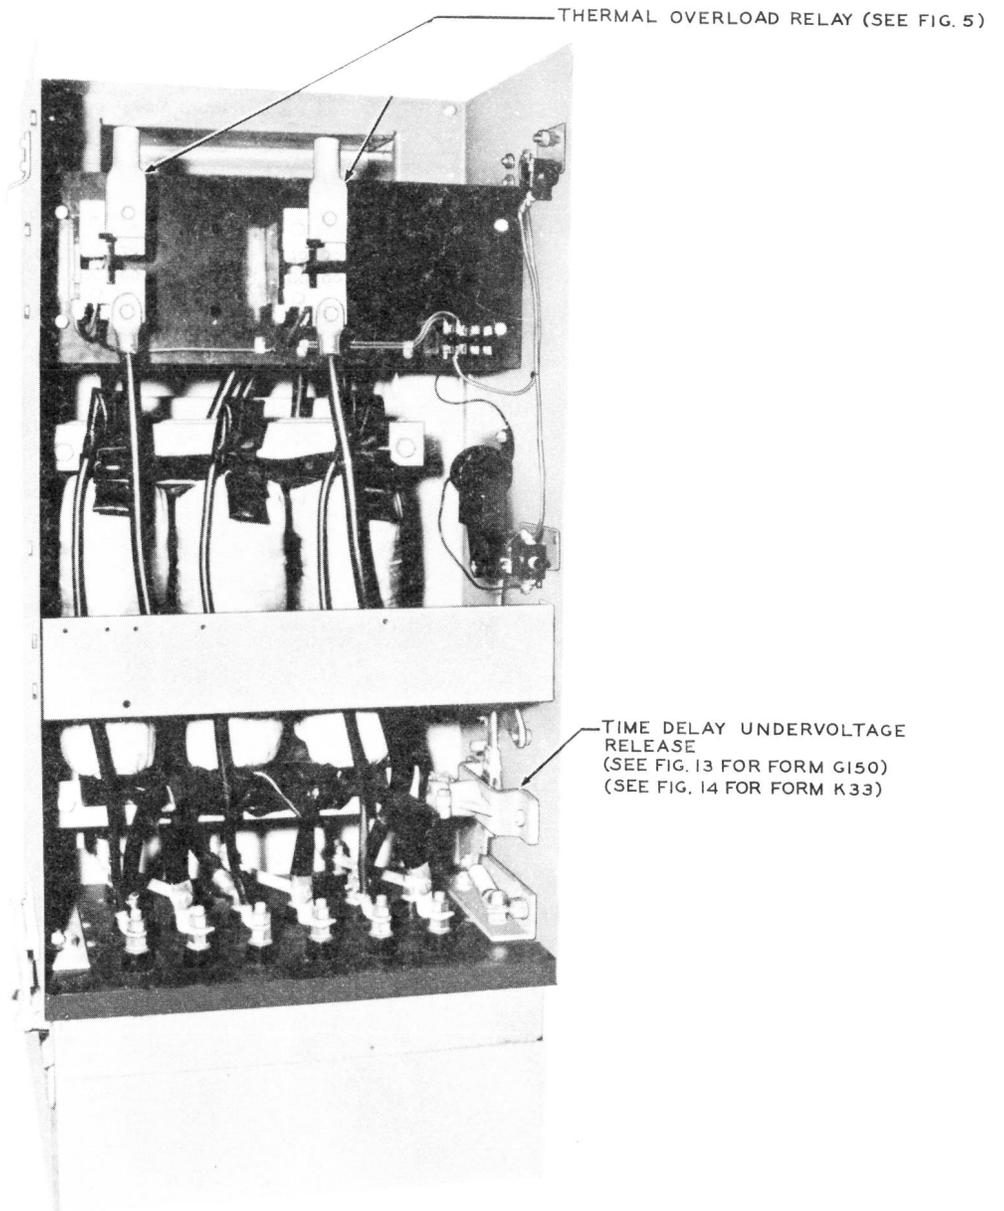

Fig. 2 - KS-5140-01 Manual-type AC Starter
1.02 This section is reissued to change the title, to add new Fig. 2, 3, 4, 5, 13, 14, 15, and 16, to revise the procedure for oil level, to add procedures for thermal overload relays, autotransformers, and undervoltage release coils, and to bring the section generally up to date. Detailed reasons for reissue will be found at the end of the section. Since this reissue covers a general revision, the arrows ordinarily used to indicate changes have been omitted.
3.21 To replace the autotransformer on the form K33 and G150 starters shown in Fig. 2, be sure the ac service is disconnected ahead of the starter. Remove the box cover. After noting their positions, disconnect the autotransformer leads from the contactor. Remove the screws, nuts, and lockwashers that fasten the transformer clamps to the box. Remove the clamps. As these autotransformers are heavy, it may be necessary to use suitable tackle to lift the autotransformer out of the box. Replace with a new transformer and reassemble in the reverse order.
2. To add new Fig. 2, 3, and 4 for the KS-5140-01 starters.